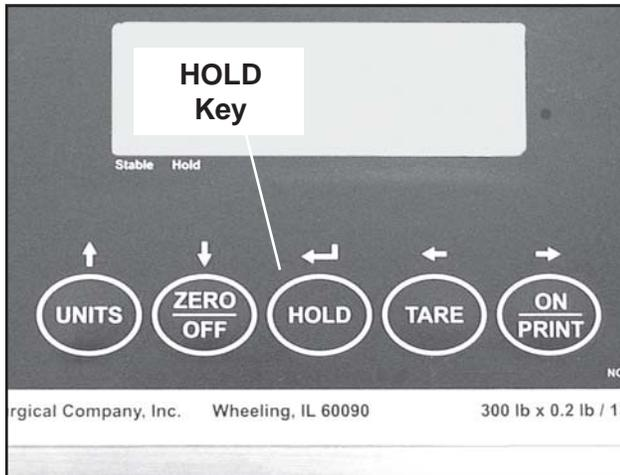

Figure 22. HOLD Key on Control Panel
2. Press the **HOLD** key (Figure 22).